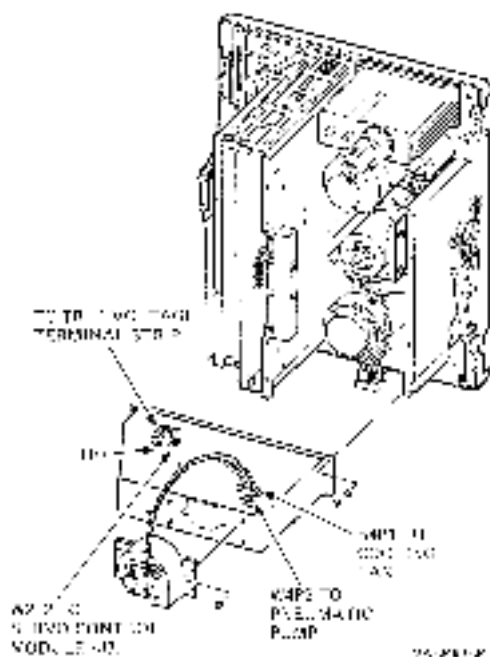

Figure 4-19 Power Supply
4. Detach all the connectors and cables from the power supply (Figure 4-19).